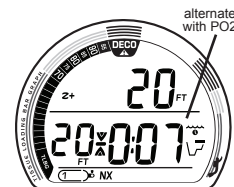

Fig. 85 - PO2 ALARM
- > After the Audible is silenced, the PO2 value with icon will alternate with Stop Time once each minute\* (Fig. 85).